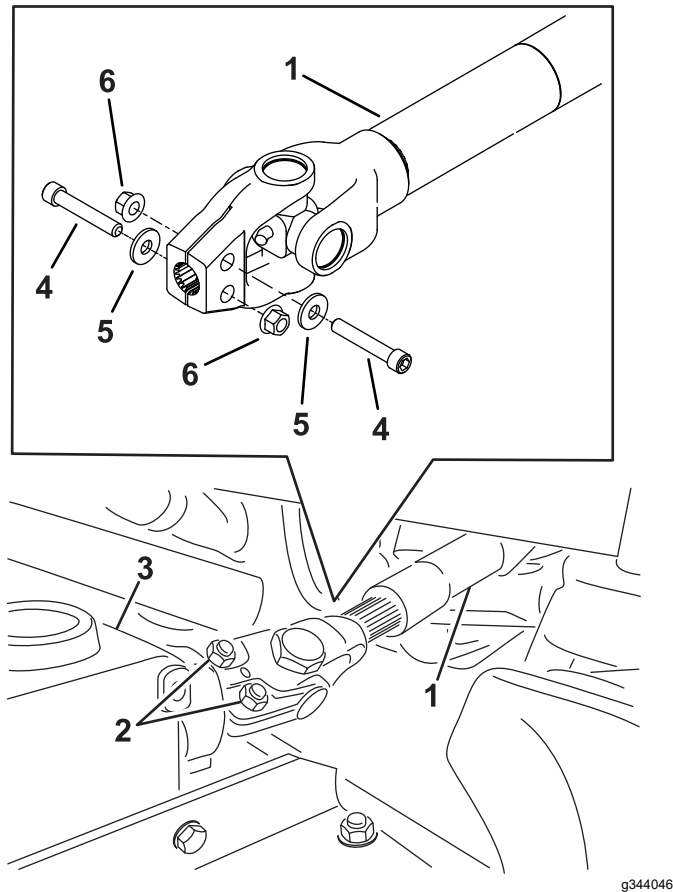

Figure 4
2. Remove the bolts and nuts from the PTO shaft (Figure 4) and slide the yoke off of the front attachment shaft. Discard the hardware.
7. Slide the PTO-shaft yoke onto the front attachment shaft and secure the shafts together with 2 hex-socket head bolt (3/8 x 2-1/4 inch), washers, and flange nuts (3/8 inch) in opposite directions and tighten in an alternating pattern (Figure 4).